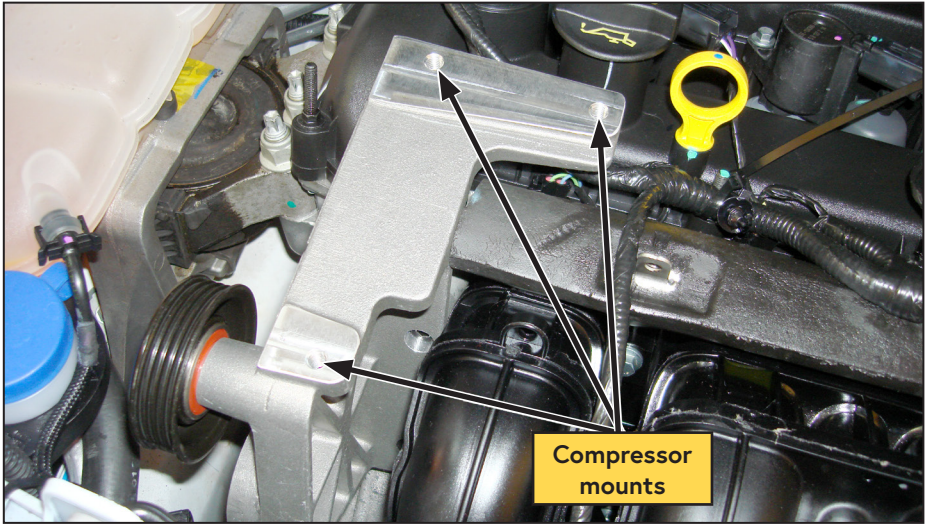

Figure 25 — Mount compressor
- Mount the compressor onto the main bracket with the (x3) supplied M8 fasteners and torque to specification (Figure 25).